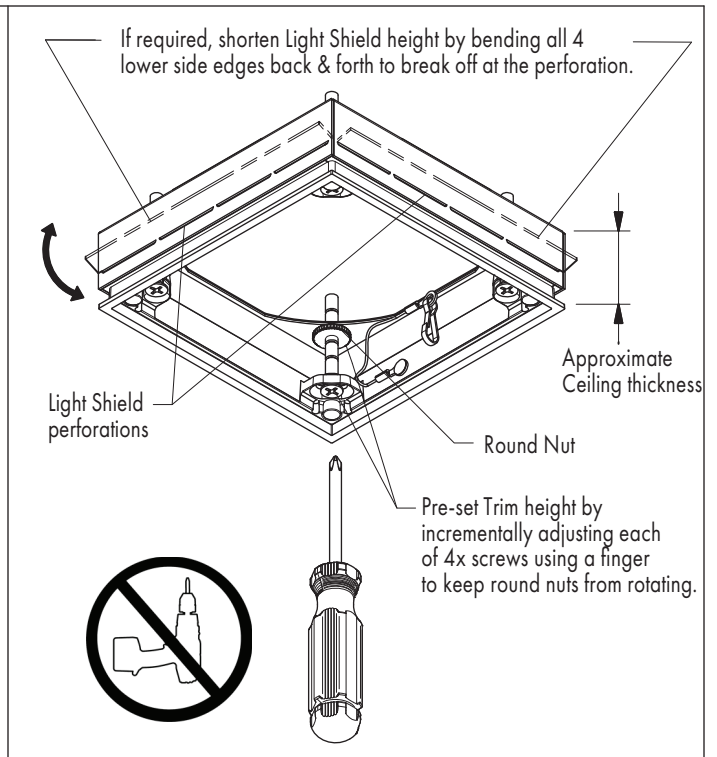

FIG 3.2 Pre-adjust Trim Kit Height
**Note:** For some installations the Light Shield will need to be shortened in height. To shorten Light Shield simply snap off short perforated edges on all sides by repeatedly bending them back & forth. Straighten remaining sides of Light Shield by hand bending if warped-FIG 3.2.